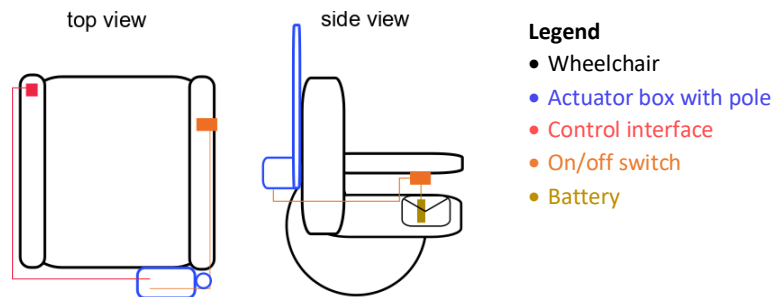

Figure 3: Exemplary placement of the MiAssiSts components on the user's wheelchair<
The MiAssiSt is placed on the user's wheelchair as exemplarily shown in Figure 3.
3. Solder the Tamiya-connector female (3.16) to the two poles of the “to battery” cable according to the following Figure 14. Chose the length of the cable sufficiently long so that the battery connected to it may be placed in a backpack or pocket while the switch is placed under the armrest of the supported arm as shown in Figure 3.
4. Solder the AUX-jack male (3.18) to the two poles of the “to actuator box” cable according to the following Figure 15 (remember: center positive, outer shell ground). Chose the length of the cable sufficiently long so that the actuator box connected to it may be placed on the back of the wheelchair on the side of the supported arm as shown in Figure 3.